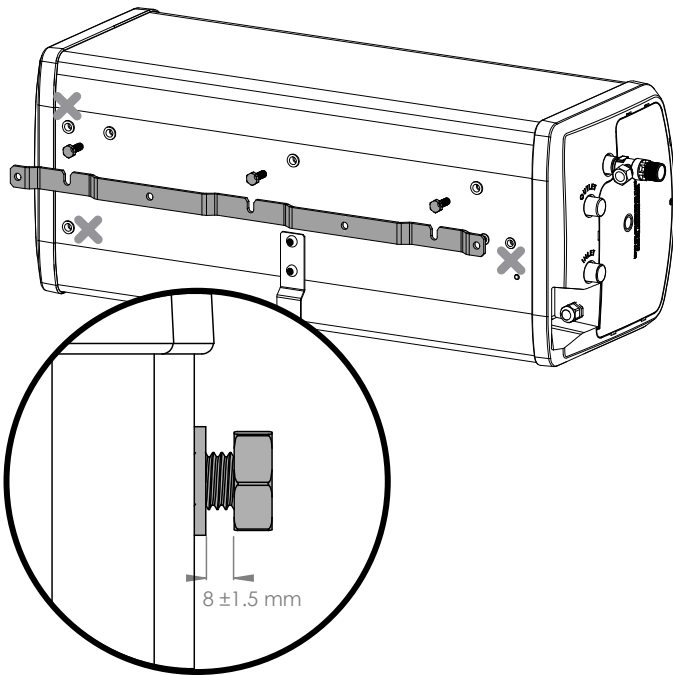

Figure 4: Top Bracket
- ▶ The top bracket bolts should be screwed all the way into the hole until they stop and stick out 8mm as shown in figure 4.
- ▶ Locate the appliance top bracket bolts (3 off) in the corresponding slots in the wall bracket. Ensure they are fully engaged and seat correctly (figure 4).